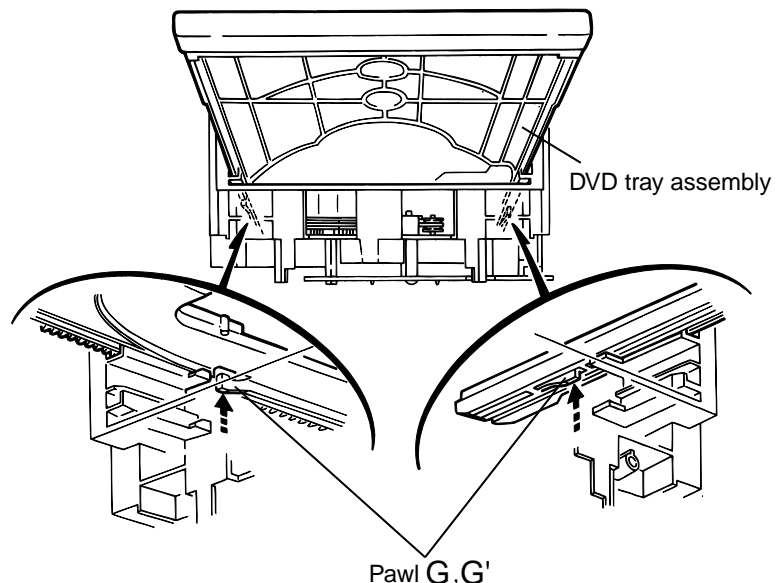

Fig.9
15. At the position where the DVD tray assembly has stop end, pull out the DVD tray assembly while pressing the two pawls "G and G' " on the back side of DVD tray assembly (See Fig.9). In this case, it is easy to pull out the assembly when it is pulled out first from the stage DVD tray assembly.